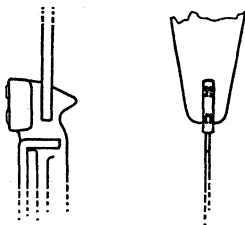

Figure 72. Moving Upper Case Type to Right or Left
5. The upper case characters should be centered between two upper case N's. This is accomplished by using one aligning wrench and the type bar in the guide as illustrated in Figure 72.